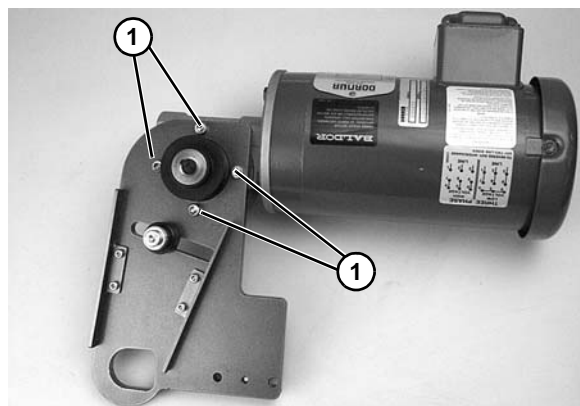

Figure 14
- If required, change gearmotor position by removing four (4) screws (**Figure 14, item 1**). Rotate gearmotor to other position and replace screws (**Figure 14, item 1**). Tighten to 103 in-lb (12 N-m).